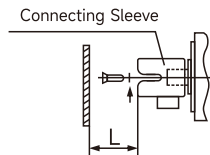

Figure 29
(1)As shown in Figure 29, fix the switch vertically on the mounting plate inside the switchgear and place it in the disconnected "0" position; Then use flat head screws to fix the connecting sleeve on the switch square shaft, and make the convex rib point towards the "0" position of the switch. Then measure the distance L from the top of the connecting sleeve to the inner surface of the cabinet door.